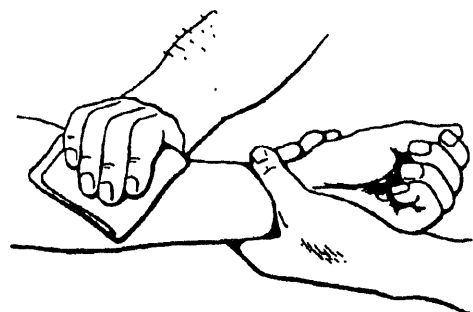

Figure 20-10.—Direct pressure.
**DIRECT PRESSURE.**—In almost every case, bleeding can be stopped by the application of pressure directly on the wound. Place a dressing (sterile or clean, if possible) over the wound and firmly fasten it in position with a bandage. If bleeding does not stop, firmly secure another dressing over the first, or apply direct pressure with your hand to the dressing (fig. 20-10).